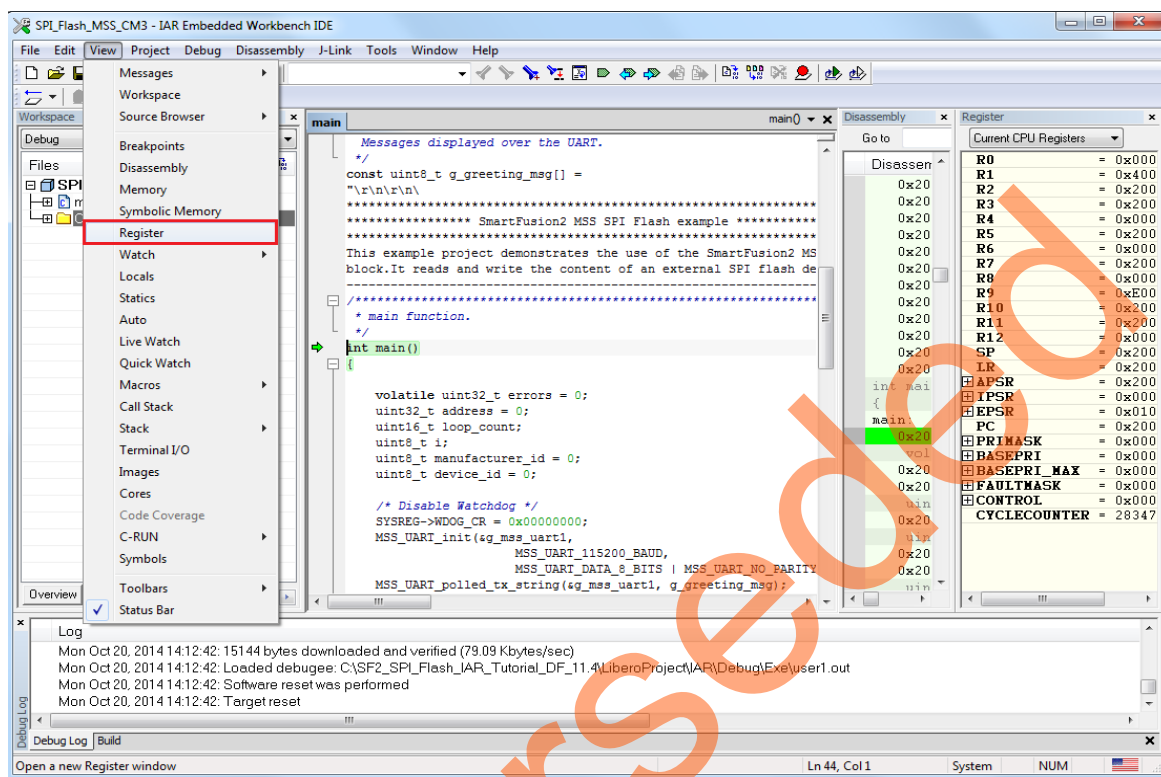

Figure 44 • Values of the Cortex-M3 Internal Registers
- Click **View > Register** to view the values of the ARM[®] Cortex[™]-M3 processor internal registers as shown in Figure 44.